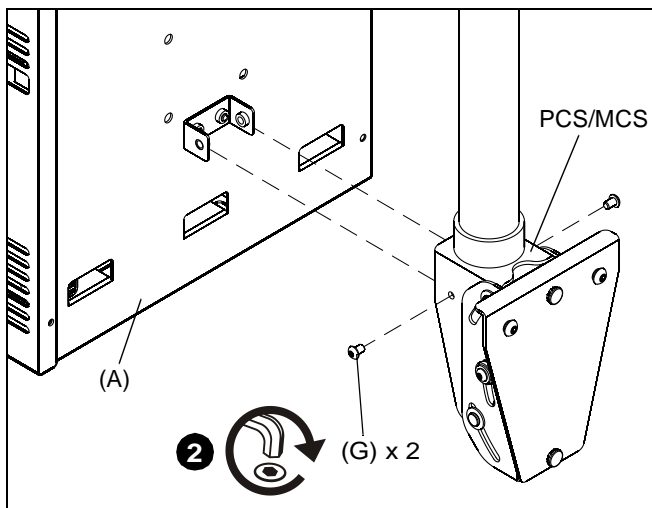

Figure 5
2. Attach CMA-170 to PCS/MCS bracket using two 1/4-20 x 3/8" button head cap screws (G). (See Figure 5)